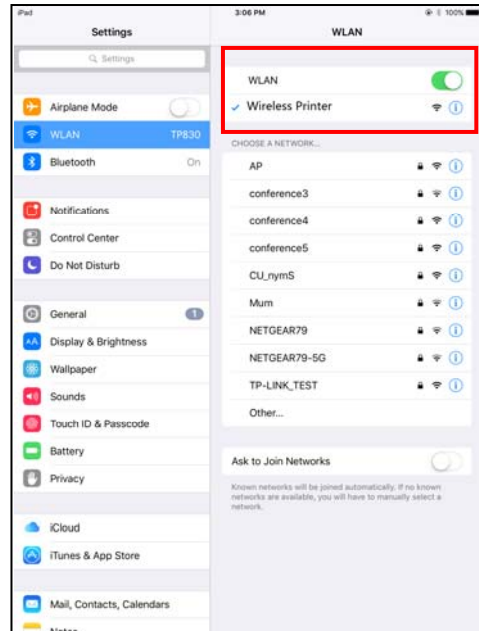

Figure 36
1.4 Select the “Wireless Printer” hotspot, as shown in Figure 36.